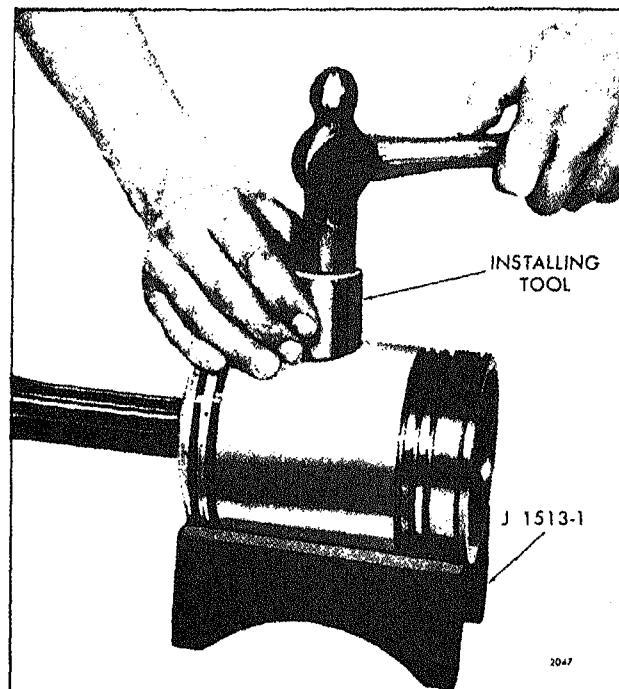

Fig. 9 - Installing Piston Pin Retainer
1. Place the piston in the holding fixture (Fig. 9).